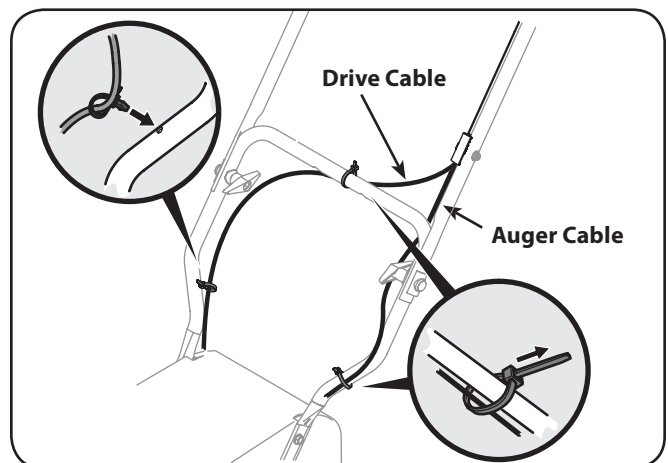

Figure 3-3
NOTE: The auger cable routes down the left lower handle and the drive cable is routed across the top of the lower handle and down the right side of the lower handle. See Figure 3-3.
7. Two cable ties have been used to loosely tie the control cables to the lower handle, including the cable tie you relocated in step 3. A push clip is also included on the lower drive cable. Position cable ties now, as in Figure 3-3, and tighten to secure cables to the lower handle. Trim off excess material of cable ties. If not already installed, push the clip on the drive cable into the hole in the handle provided as shown in the left inset below.